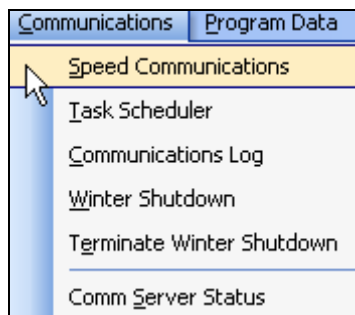

Figure 6.0.1
1. In the toolbar at the top of the screen select **Communications** then scroll down to **Speed Communications** and click on it (Figure 6.0.1).